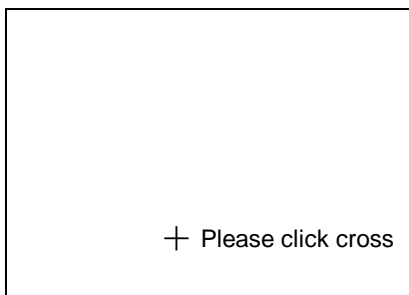

Fig 2.9
② Just follow the calibration procedure on the screen: Click the center of the cross with the touch pen. Then the next page as shown in Fig 2.9 will be displayed.